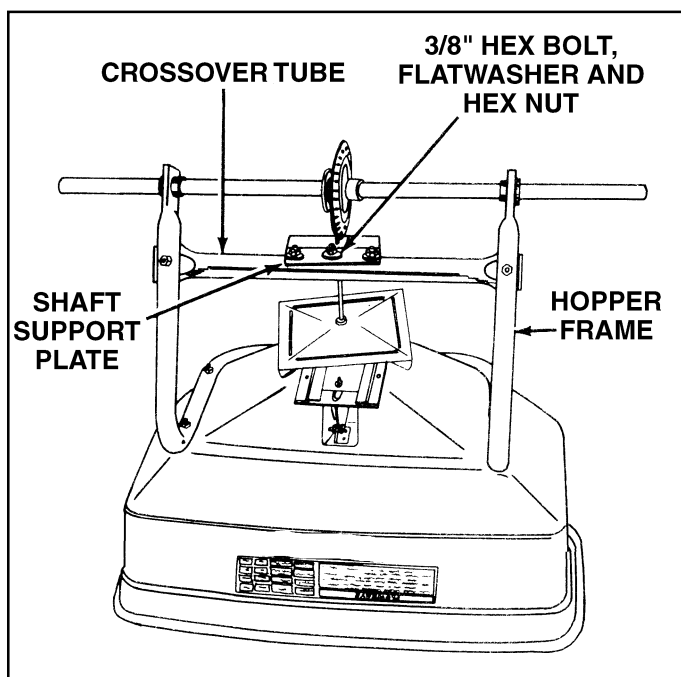
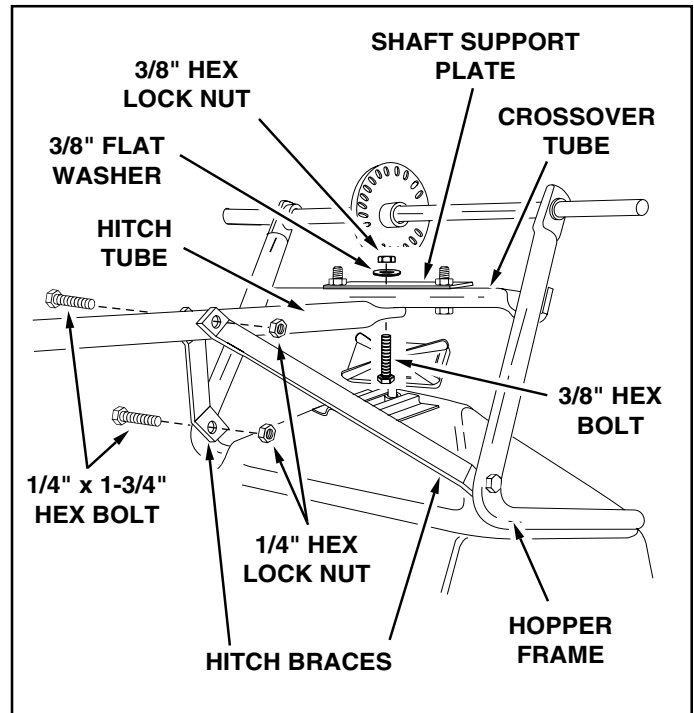

FIGURE 1
FIGURE 2
1. Turn the spreader upside down as shown in figure 1, so that it rests on the hopper.
2. Remove the 3/8" hex bolt, flat washer and hex lock nut from the center of the crossover tube and shaft support plate. See figure 1.
3. Assemble the two hitch braces to the inside of the hopper frame, one on each side, using two 1/4" x 1-3/4" hex bolts and two 1/4" hex lock nuts. See figure 2. **DO NOT TIGHTEN AT THIS TIME.**
4. Assemble short end of hitch tube to the crossover tube (on opposite side from shaft support plate). Fasten to the center hole in the crossover tube using the 3/8" hex bolt, flat washer and hex lock nut removed in figure 1. See figure 2. **DO NOT TIGHTEN AT THIS TIME.**
5. Align the holes in the ends of the two hitch braces with the nearest hole in the hitch tube. Fasten with a 1/4" x 1-3/4" hex bolt and a 1/4" hex lock nut. See figure 2. **DO NOT TIGHTEN AT THIS TIME.**
6. **Tighten all hex nuts and bolts, following the same sequence as assembled in figures 1 and 2. DO NOT COLLAPSE TUBE WHEN TIGHTENING.**